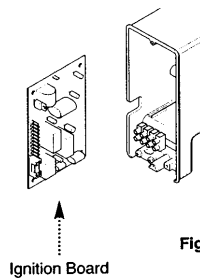

Fig. 61
13.14 Ignition Board (Fig. 61)